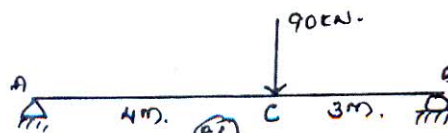

Fig.Q3(c)
- c. Find deflection at 'C' and slope at A and B for the beam shown in Fig.Q3(c) using moment area method. (04 Marks)